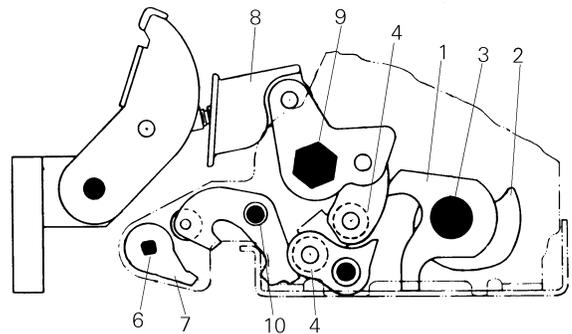
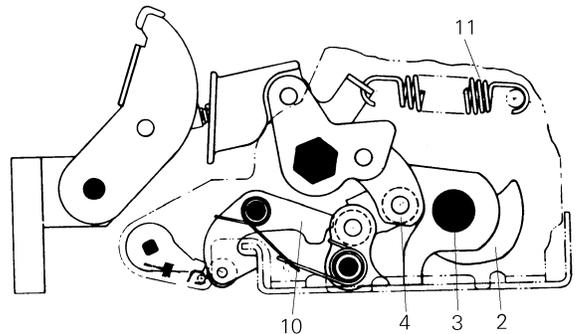

Figure 5-9. Breaker mechanism in the TRIPPED position.
Figure 5-10. Breaker mechanism in the RESET position.
*Tripped Position* – The mechanism goes from the CLOSED position to the TRIPPED position, illustrated in Figure 5-9, when the trip shaft (6) is rotated by either the manual trip button or one of the other trip devices. The trip shaft rotates, the trip latch disengages from the secondary latch roller (5). The secondary latch pivots, resulting in the collapse of the toggle linkage. This collapse, along with the opening spring (11), shown in Figure 5-10, causes the breaker contacts to open.
*Reset Position* – The closing cam (2), assembled to the cam shaft (3), is rotated by the charging motor, manual charging handle, or maintenance handle. The cam engages the cam roller and partially extends the toggle linkage. This allows the secondary latch (10) to pivot against the front frame, as illustrated in Figure 5-10, leaving a gap between the trip latch (7) and secondary latch roller (5). The secondary latch is now in a position to engage both the trip latch and cam roller (4).